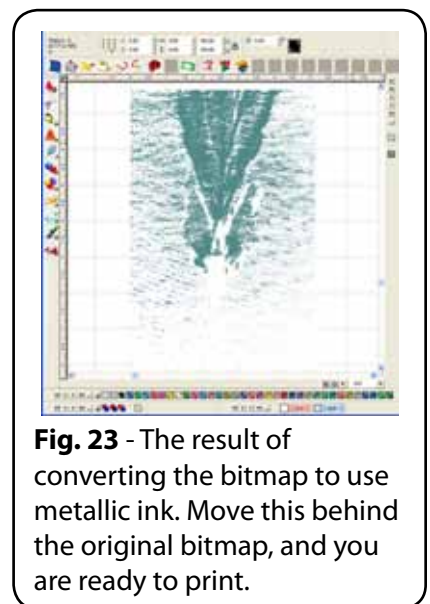

Fig. 23 - The result of converting the bitmap to use metallic ink. Move this behind the original bitmap, and you are ready to print.
43. In the SmartBar, click **Apply** to finish editing (Fig. 23).